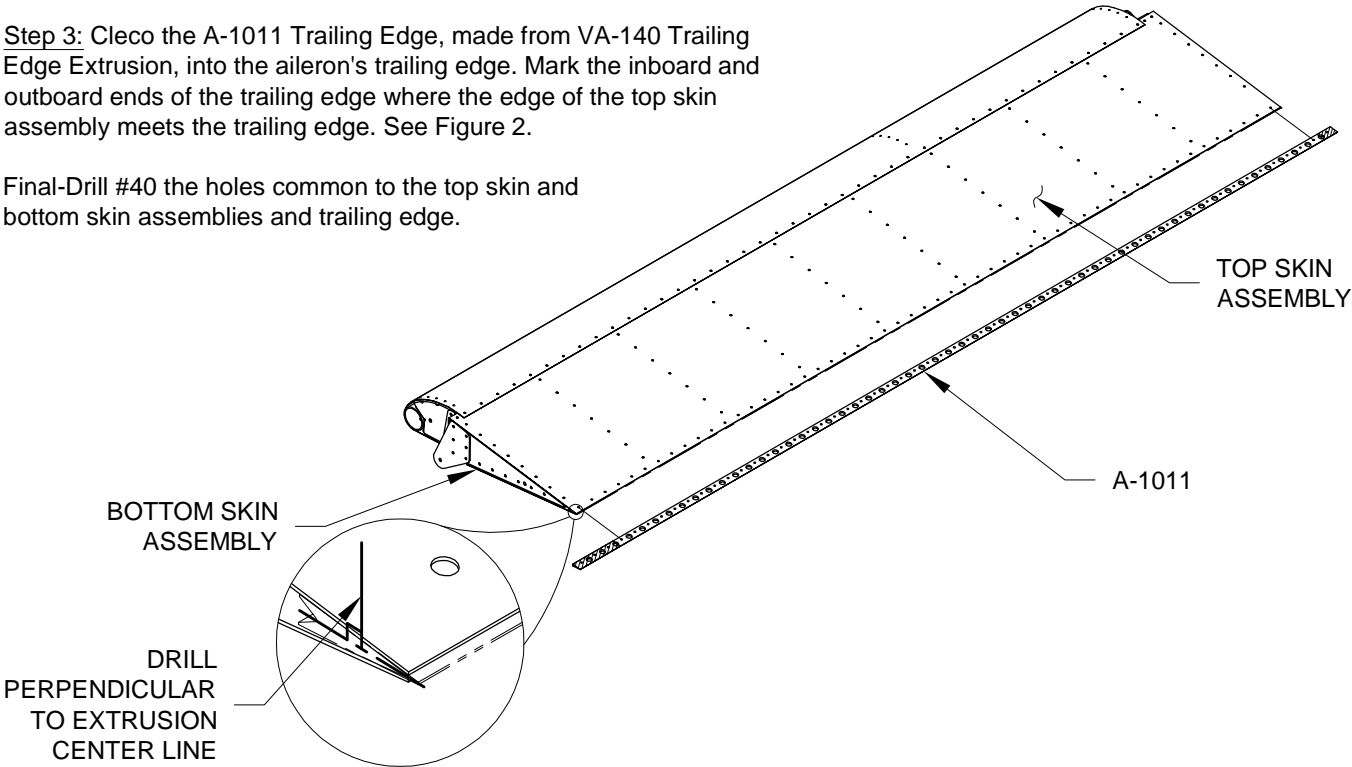

FIGURE 2: INSERT TRAILING EDGE
Step 3: Cleco the A-1011 Trailing Edge, made from VA-140 Trailing Edge Extrusion, into the aileron's trailing edge. Mark the inboard and outboard ends of the trailing edge where the edge of the top skin assembly meets the trailing edge. See Figure 2.